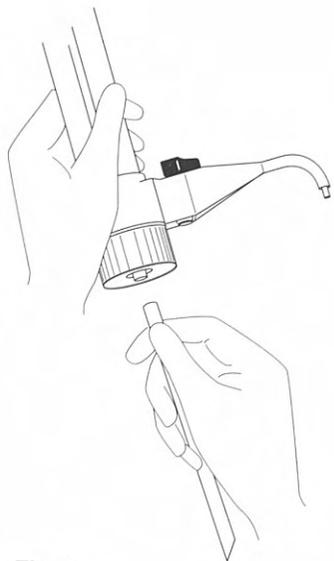

Fig. 1
7.2 Connecting the filling tube (Fig. 1)